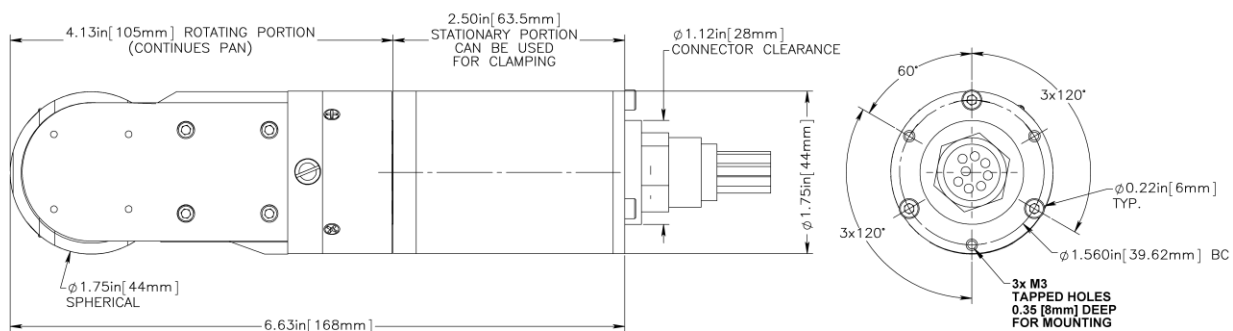

FIGURE 1: SPECTRUM 45™ CAMERA MOUNTING DIMENSIONS
**For custom mounting**, the rear end cap has three clearance holes for M3 screws and the tube has three M3 tapped holes to be used for a custom-made mounting bracket. See Figure 1 below. Remember to provide minimum  $\phi 1.12$  in (28mm) clearance for the connector and locking collar. The camera may be mounted in any orientation.